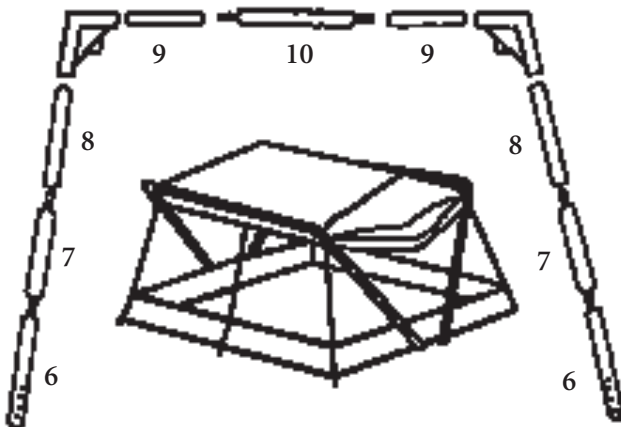

FIG. 3
- Unzip door. Assemble frame inside (fig. 3) (note: put pole #7 into adjustable pole #6 to hole nearest the top.